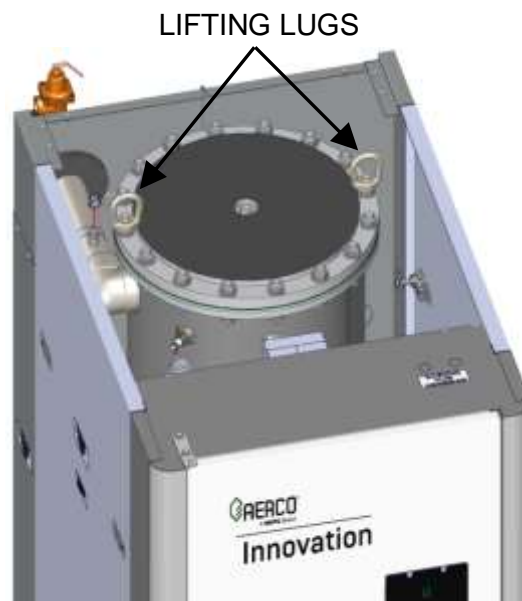

Figure 2-2. Partial Top View Showing Installed Lifting Lugs
The unit must be installed on a **4 to 6 inch (10.2 to 15.2 cm) level** housekeeping pad to avoid base corrosion. Two lifting lugs are provided with the unit and are wire-tied to the top of the heat exchanger. The top sheet metal cover of the unit must first be removed and the lifting lugs must be installed as shown in Figure 2-2. **USE THESE TWO LUGS TO LIFT AND MOVE THE UNIT.** Remove the top panel from the unit to provide access to the lifting lugs. Remove the four (4) lag screws securing the unit to the shipping skid. Lift the unit off the shipping skid and position it on the 4 to 6 inch (10.2 to 15.2 cm) housekeeping concrete pad (required) in the desired location.